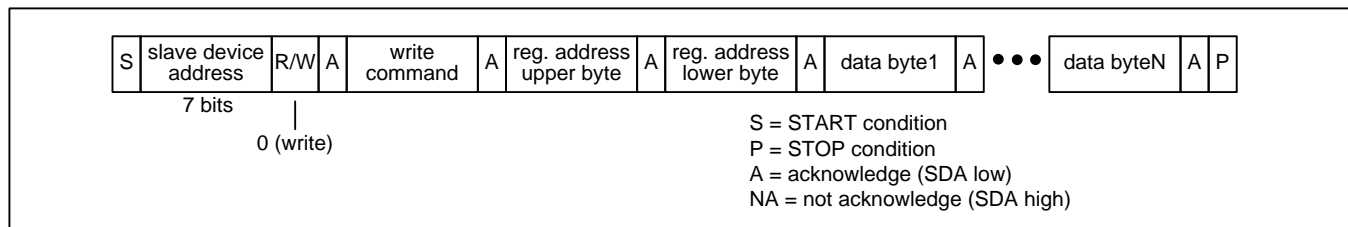

Figure 17 – I²C Register Write Transaction Functional Timing
Register Write Transactions. The device registers are accessible when **EESEL=0**. The bus master does an I²C write to the device. The first three bytes of this transaction are the SPI Write command (see Table 4), the upper byte of the register address, and the lower byte of the register address. Subsequent bytes are data bytes to be written. After each data byte is received, the device writes the byte to the write address and then increments the write address. The bus master terminates the write with a STOP condition (P). See Figure 17.